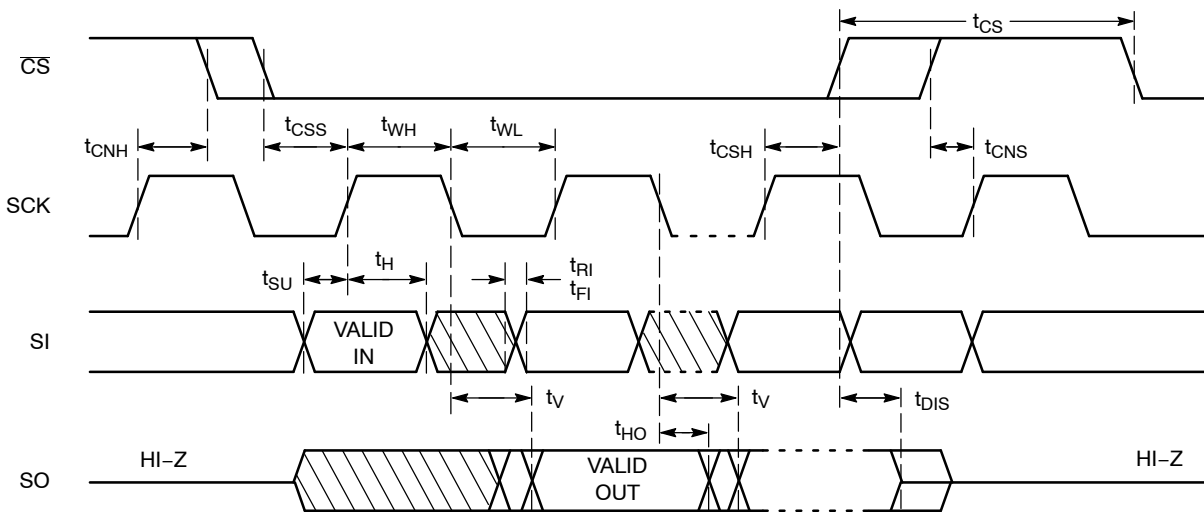

Figure 2. Synchronous Data Timing
7. **All Chip Select (CS) timing parameters are defined relative to the positive clock edge (Figure 2). t_{CSSH} timing specification is valid for die revision C and higher. The die revision C is identified by letter "C" or a dedicated marking code on top of the package. For previous product revision (Rev. B) the t_{CSSH} is defined relative to the negative clock edge.**
After a high to low transition on the \overline{CS} input pin, the CAT25080/160 will accept any one of the six instruction op-codes listed in Table 9 and will ignore all other possible 8-bit combinations. The communication protocol follows the timing from Figure 2.